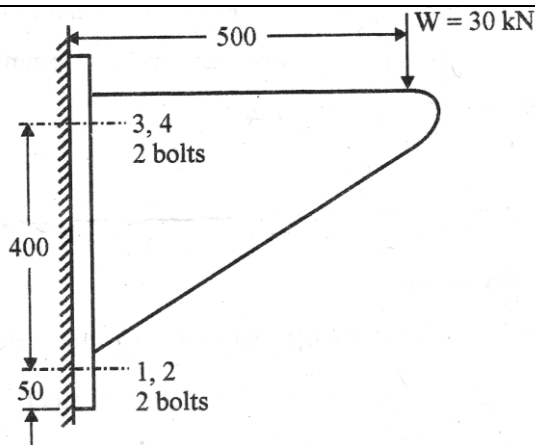

Fig. No. 1
c)	A bracket as shown in fig.no.1 is fixed to the wall by means of four bolts. Find the size of the bolts if $\sigma_t = 70 \text{ N/mm}^2$ for bolt material.